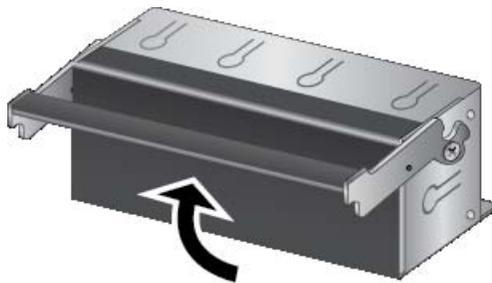

Figure 63. Lifting the Locking Handle on the Blank Power Supply Slot Cover
1. Lift the locking handle on the blank power supply slot cover. Refer to Figure 63.